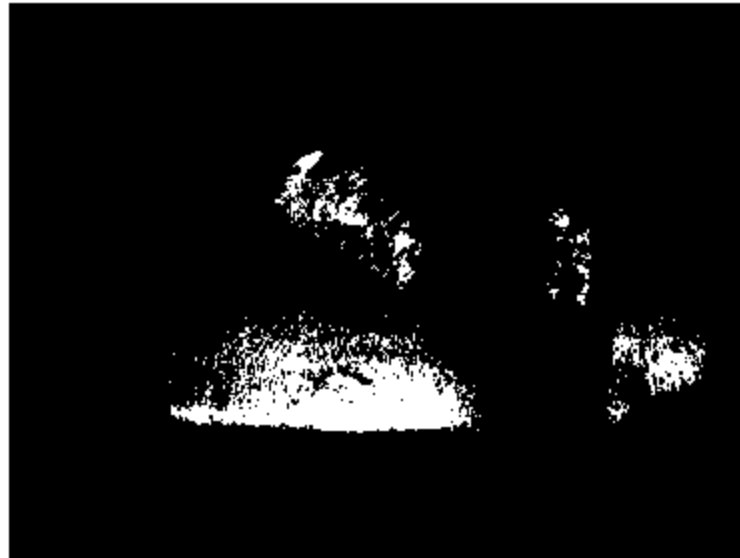

Figure 8
10. Using a hammer, tap the new spring pins into place and weld as required. See Figure 8.